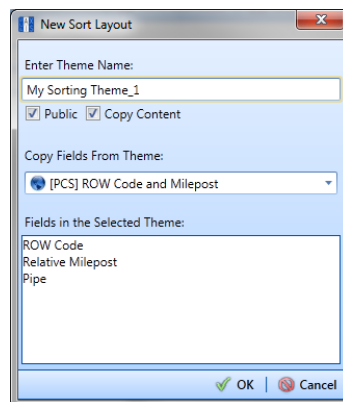

Figure 13-32. New Sort Layout
- 5 Click the  **Add** button to open the *New Sort Layout* dialog box (Figure 13-32).